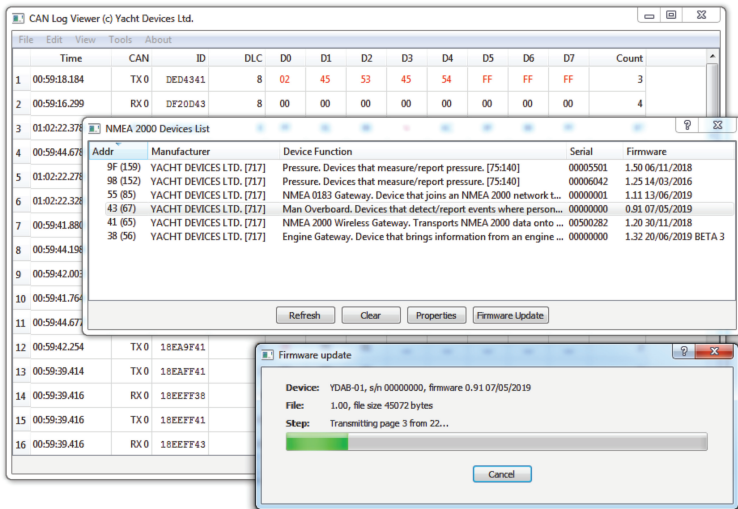

Figure 1. Firmware update of Alarm Button YDAB-01
2. Click the «Refresh» button (see Figure 1 at the next page) in the opened window and wait for the Device to appear in the list.